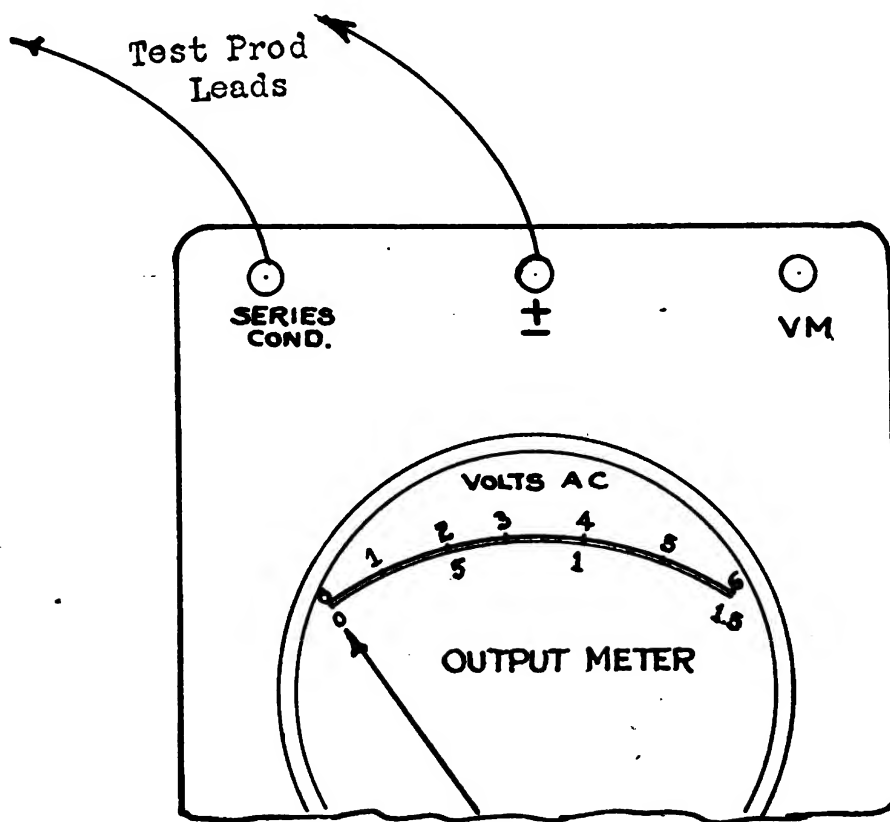

FIGURE 70.—Output meter connection, condenser in circuit.
*It is very important to use the series condenser pin-jack when d-c voltage is present. This precaution is necessary to protect the instrument and also to cause the reading to be accurate. The d-c potential will upset the a-c reading and if it is high enough may burn out the meter. A condenser is incorporated in the output meter to block direct current, but is in the circuit only when the test prods are plugged in as shown by figure 70. Since the reactance of a condenser is inversely proportional to frequency, the meter will read low on low frequencies if the series condenser pinjack is used. For this reason, when making a fre-*